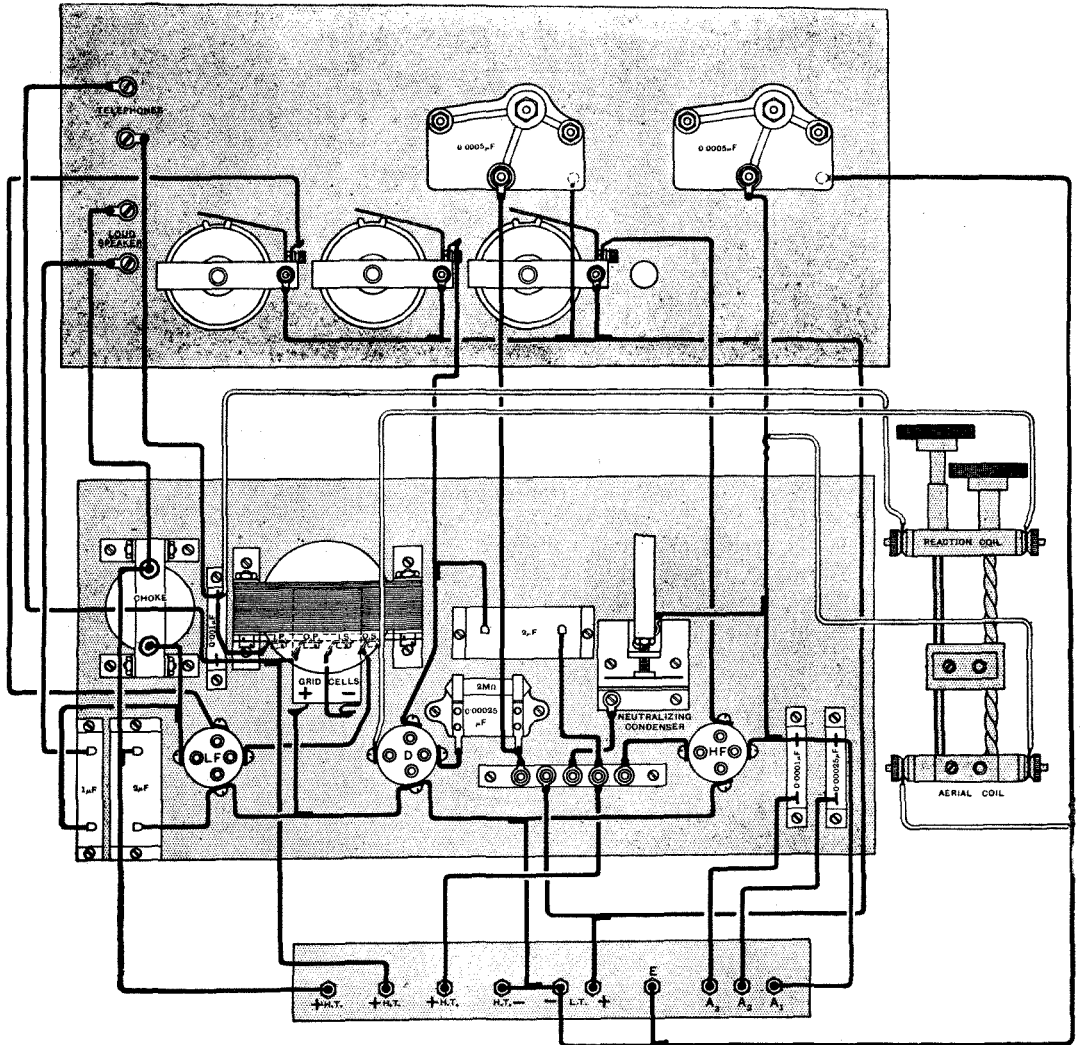
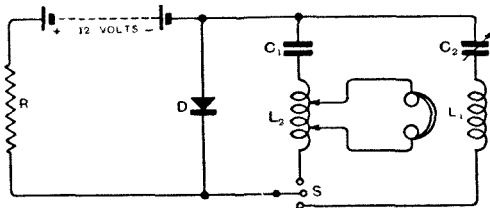

Fig. 7. Complete wiring diagram of the Super-Sensitive receiver.
Fig. 5. Circuit for setting up oscillations.
The position of the components mounted on the baseboard is given in Fig. 5, and the parts may easily be identified from the layout of Fig. 7. It will be seen that fixed condensers of 0.0001, 0.00025 (2), 0.001, 0.5 and 2.0 (2) microfarads are required, with a 2 megohm grid leak, 3 valve holders,
Having assembled the receiver, it may be wired, but before commencing the wiring it will be found convenient to remove the variable condensers in order that the wires may easily be secured to the filament resistances. If a fairly stiff wire such as No. 16 tinned copper is employed, there will be no need to use insulating sleeving. The wiring is clearly shown in Fig. 7. It will be observed that four flexible wires are employed to connect the reaction and aerial coils to the remainder of the receiver. These flexible wires are passed through holes in the side of the box.
THE circuit of a generator was given in *The Wireless World and Radio Review* of June 11th, No. 252, page 300, but it is reproduced again in Fig. 5 for convenience of reference.
free change of the potential applied to the detector, therefore the sum of the voltages at D and R (Fig. 5) must be constant, the potential difference at D changing in accordance with the strength of the current, it being always adjusted by corresponding changes of the voltages on the ends of the resistance.
Experiments have shown that R must always be higher than the average negative resistance of the detector, which is usually no higher than 900 ohms. The minimum value of R , therefore, is about 1,000 ohms. In order to choke back the oscillations from passing through to the battery circuit, it is desirable that the resistance should possess an inductance. For this purpose it is advisable to wind R (Fig. 5) of thin copper wire on an iron core. It is, of course, possible to include a separate choke coil of such a resistance that with the resistance R the total does not considerably exceed 1,000 to 1,500 ohms. The resistance of the inductance L_2 should also not exceed 50 ohms.